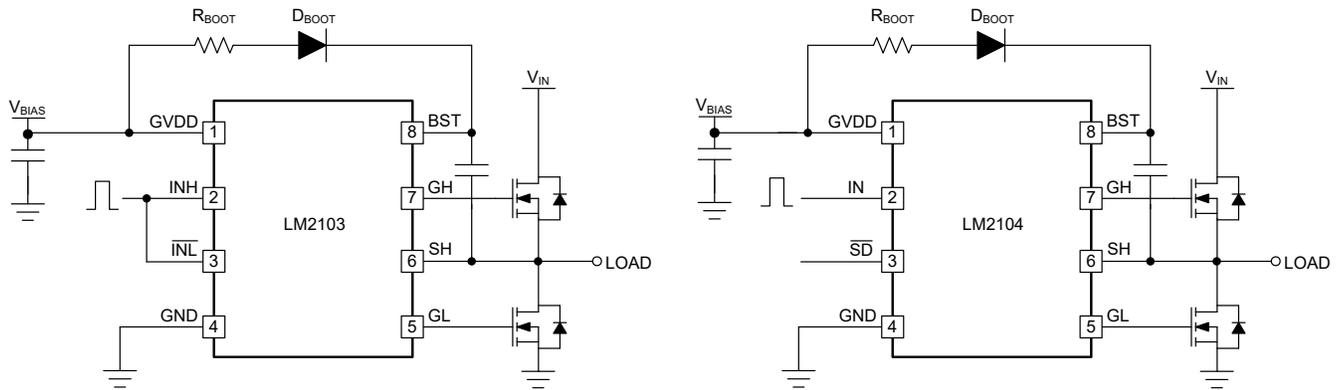

Figure 5-2. Examples of Different Input Configurations Using LM2103, LM2104
- One input pin (PWM or IN, or named like a high-side input HI or INH). This is paired with a second, optional input (like EN or SD for enable or shutdown functionality). See example using half-bridge driver LM2104 in Figure 5-2.
- A high-side input pin (HI or INH) paired with an *inverted* low-side input (nLI or nINL). See example implementation using half-bridge driver LM2103 in Figure 5-2.